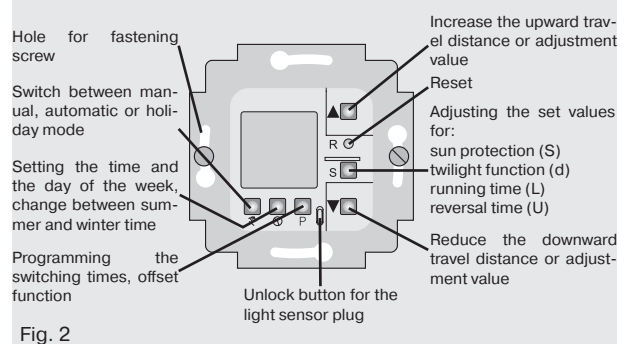

Fig. 2
- Fasten the timer by inserting the two screws supplied in the holes of the flush-mounted box (Fig. 2).
If, after a power failure (5 hours), or at the time of initial installation, nothing appears on the display within 10 seconds, press the "Reset" button illustrated on Fig. 2. 12:00 now appears flashing on the display.